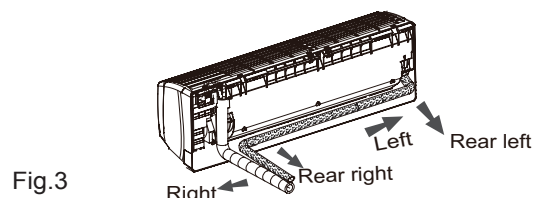

Fig.3
(1) The pipe can be led out in the direction of right, rear right, left or rear left.(As show in Fig.3)